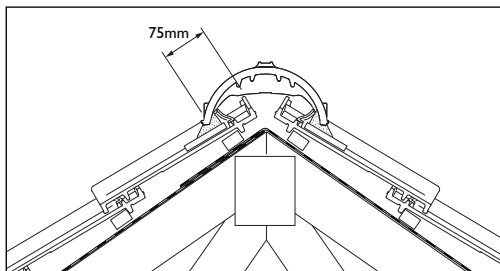

Fig 41 - Section through bedded ridge
- 1 Ensure that a minimum 75mm cover is provided by the ridge tile over the top course of tiles with any exposed mortar neatly pointed (Fig 41).